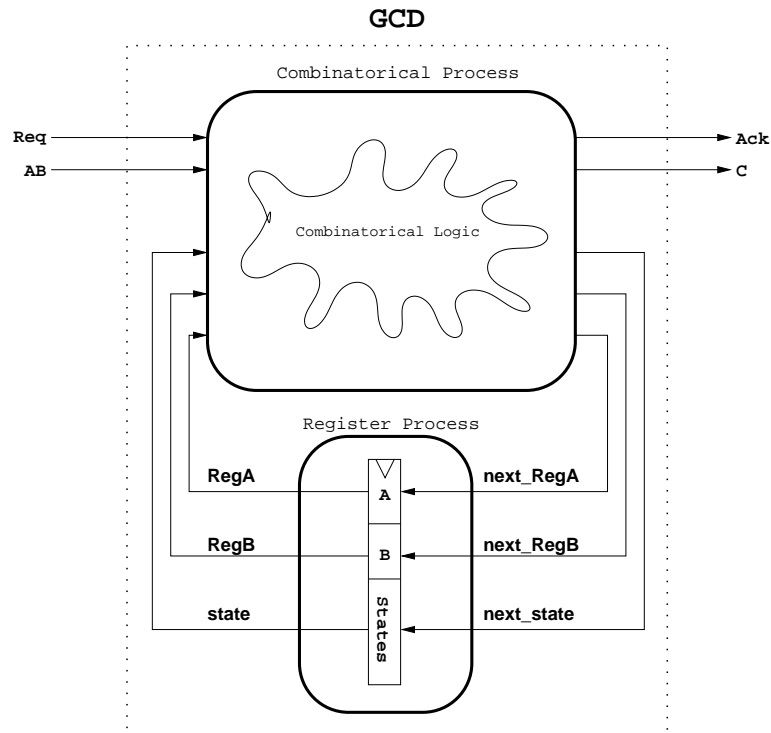

Figure 4: An RTL structure describing the processes needed.
The latter is important: you have full control over the implementation produced by the synthesis tool, but you save the effort of writing all the corresponding low-level structural VHDL or SystemVerilog code yourself. This is a key message to get from this lab assignment! There is also a danger of working at this higher level of abstraction, and that is that you may start to think as if you are “programming in VHDL or SystemVerilog” – a mindset that will lead you to fail miserably as a digital systems designer. You should always think in terms of what hardware you want to create, and then write your HDL code accordingly in a carefully structured way as indicated in Figures 4, and 5, and 6, i.e., cleanly separated into combinational logic (which is synthesized) and D-flip-flops (which are inferred).
- c) Write a new RT-level FSM-style architecture body for the GCD entity (complete the code in the file `task2/gcd.vhd`). The code should be structured following the two-process template explained in the lectures and illustrated in Figure 4, and Figure 5, and 6. Remember to implement the required fully interlocked handshaking, and remember that after reset your circuit should be able to perform many computations in sequence without being reset again.